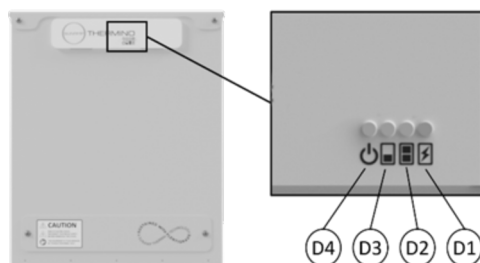

Figure 13 - Flextherm Eco G2 D Heat Battery LED operation
6. Check the front of the Heat Battery to ensure that the “power” LED is lit (see Figure 13 & Table 9).
9. If present, press the BOOST button on the solar power diversion controller to start charging the Heat Battery. The operation of the External Heat Source in DHW mode, will be paused and the Heat Battery heating element will engage, observe if the “heating element” LED is lit (see Figure 13 & Table 9).